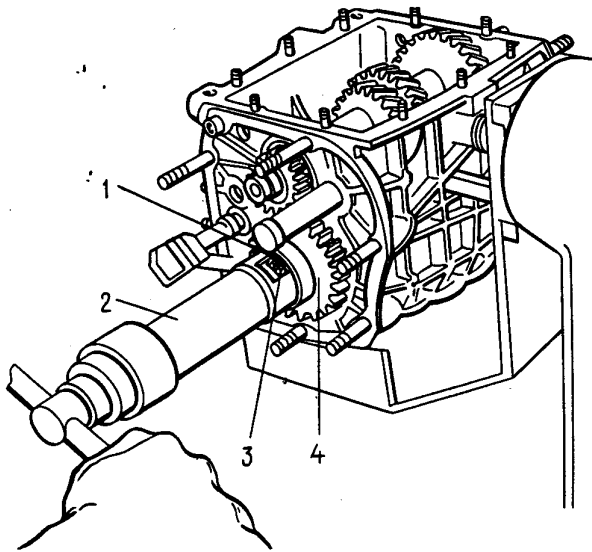

Fig. 3-30. Installing Reverse Gear Lockring on Main Shaft:
- install the lockring of the reverse gear using tool 41.7816.4069 as shown in Fig. 3-30; when installing shaft bearings and glands, use mandrels 41.7853.4028, 41.7853.4032 and 41.7853.4039.